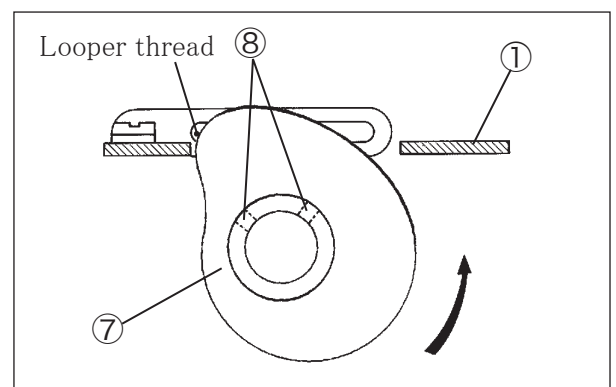

Fig. 6-10
The looper thread take-up ⑦ viewed from the needle bar is shown in Fig. 6-10.